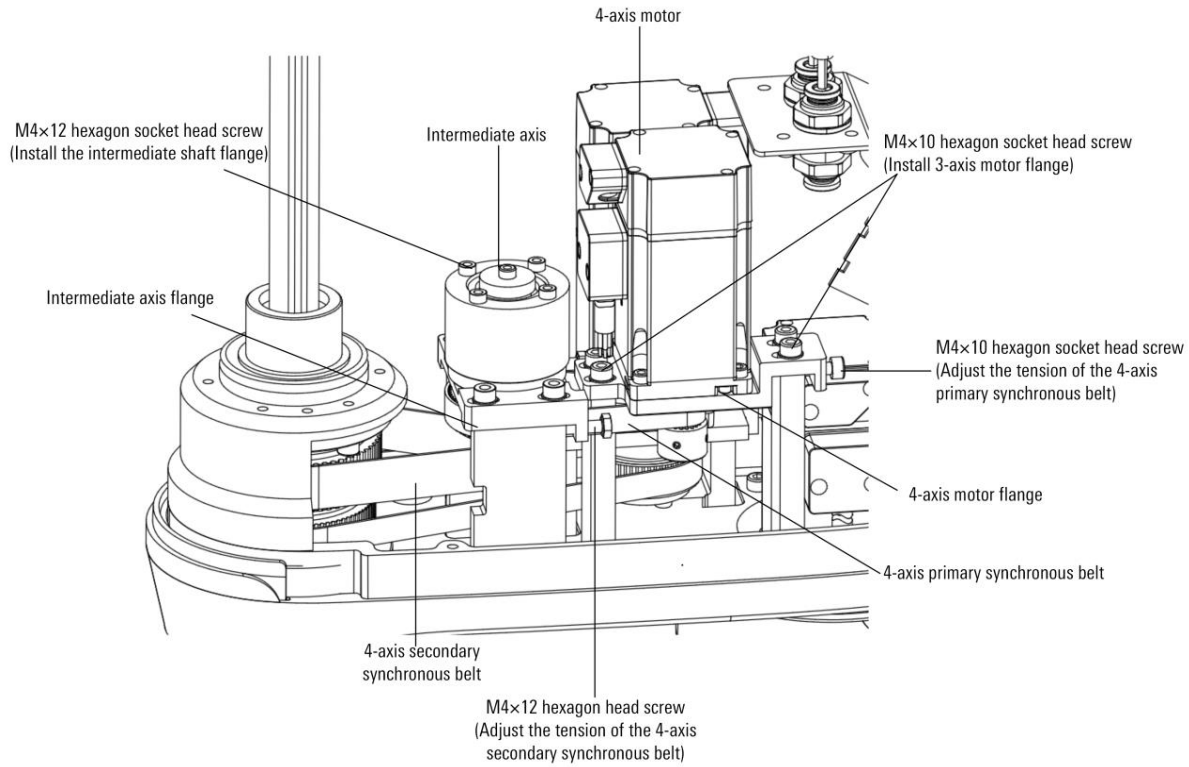

Figure 8-14 Schematic diagram of disassembling the intermediate axis
- Step3. Use an Allen wrench to remove the four M4×12 inner hexagon socket head screws for installing the flange of the 4-axis motor, and then slowly loosen the a M4×12 inner hexagon socket head screw that adjusts the tension of the 4-axis primary timing belt. Remove the flanges of the 4-axis motor and 4-axis motor together, as shown in Figure 8-14.
- Step4. Use an Allen wrench to unscrew and remove the four M4×12 hexagon socket head screws for installing the intermediate shaft flange, and then use a normal wrench to slowly loosen the two M4×12 hexagon heads screws that adjust the tension of the 4-axis secondary timing belt. Take off the intermediate axis and the intermediate axis flange together, and take off the 4-axis primary timing belt, as shown in Figure 8-14.